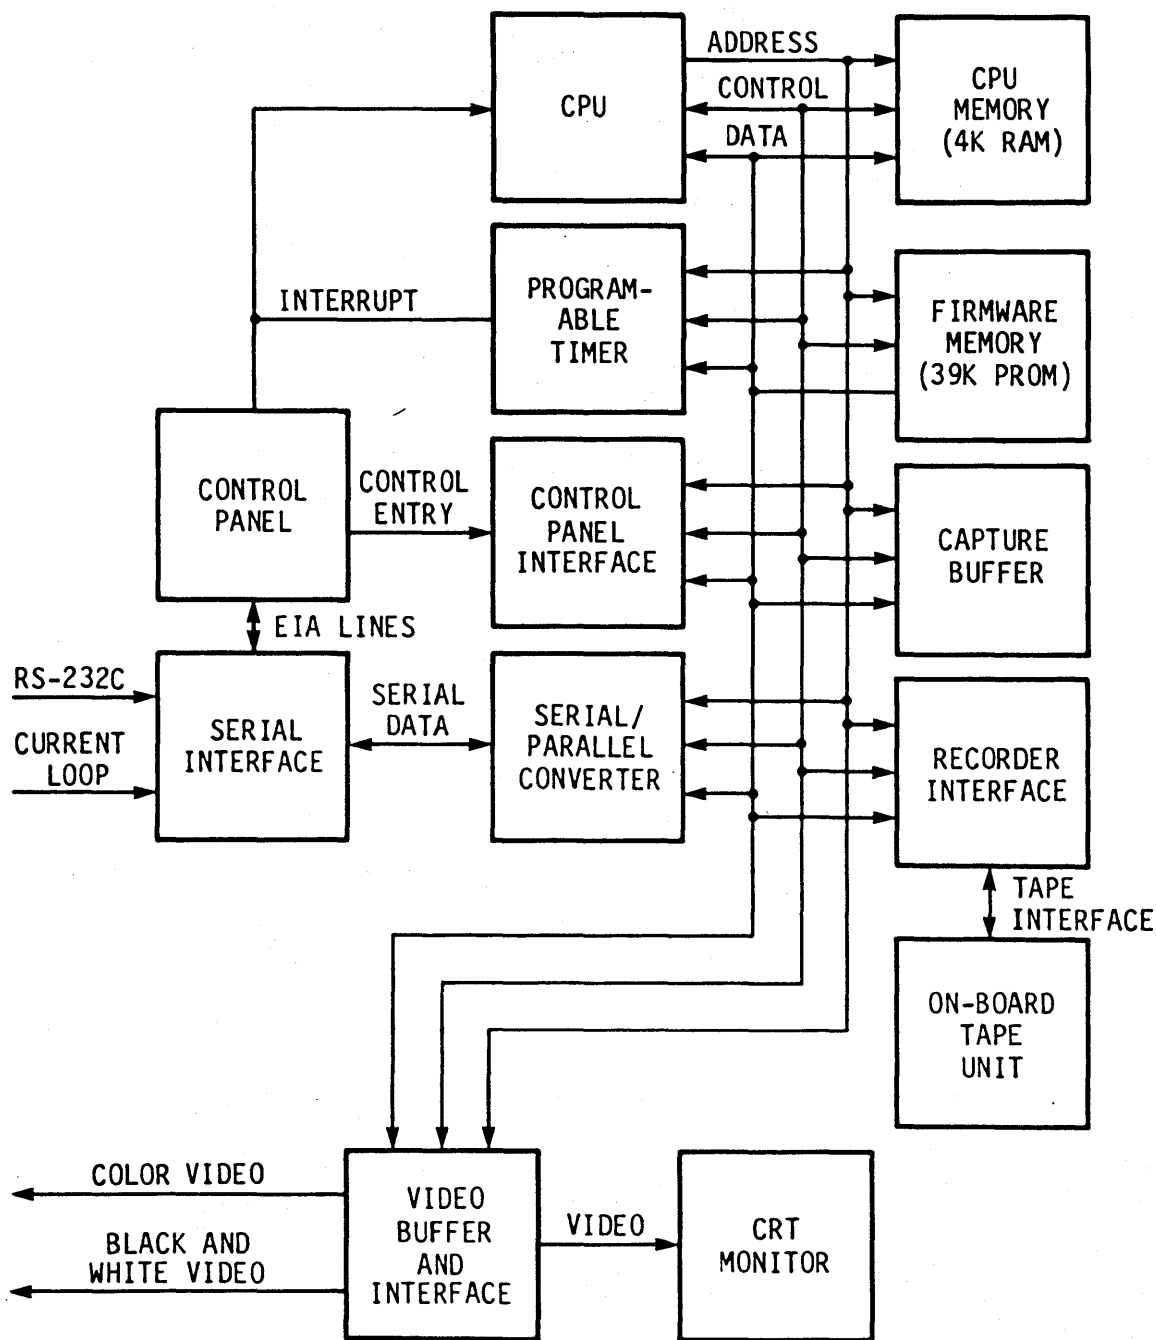

Figure 2. 802A Data Link Monitor Block Diagram
4.01 The following paragraphs provide descriptions of the functional areas of the monitor. (See figure 2.)